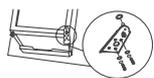

Figure 1
- Unscrew the bolts fastening the lower hinges (Fig. 1).